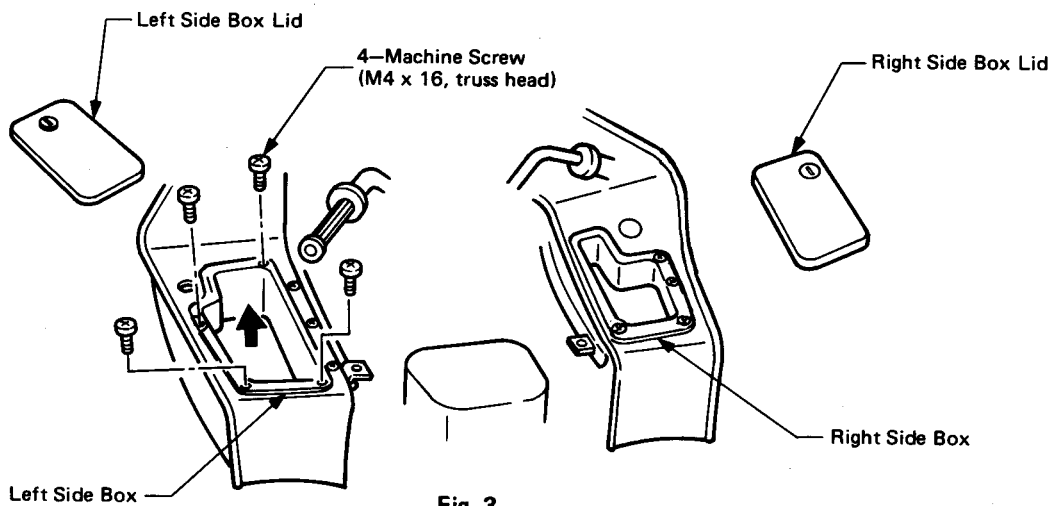

Fig. 3
(2) Remove the screws as shown in Fig. 3.
(3) Remove the Left Side Box.